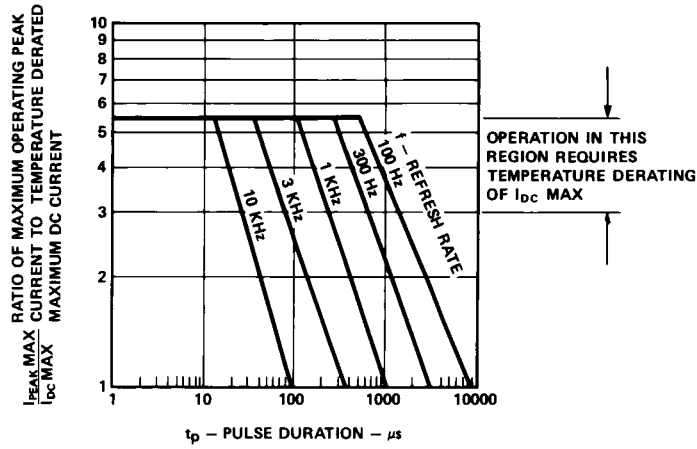

Figure 1. Maximum Allowable Peak Current vs. Pulse Duration.
4. See Figure 1 to establish pulsed operation. Maximum pulse width is 1.5 mS.